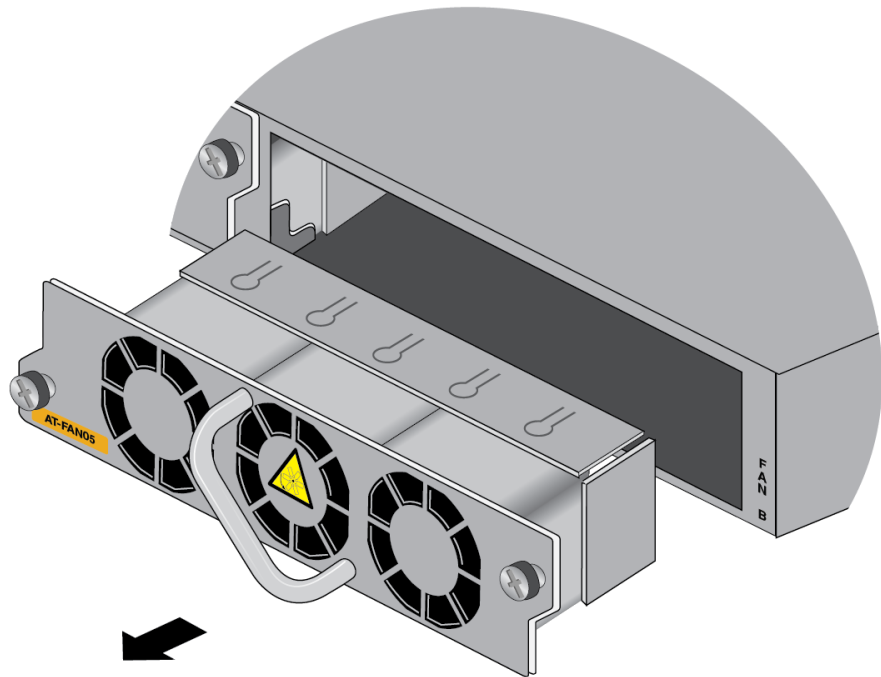

Figure 141. Sliding the Fan Module from the Switch
3. Slide the fan module out of the switch. Refer to Figure 141.